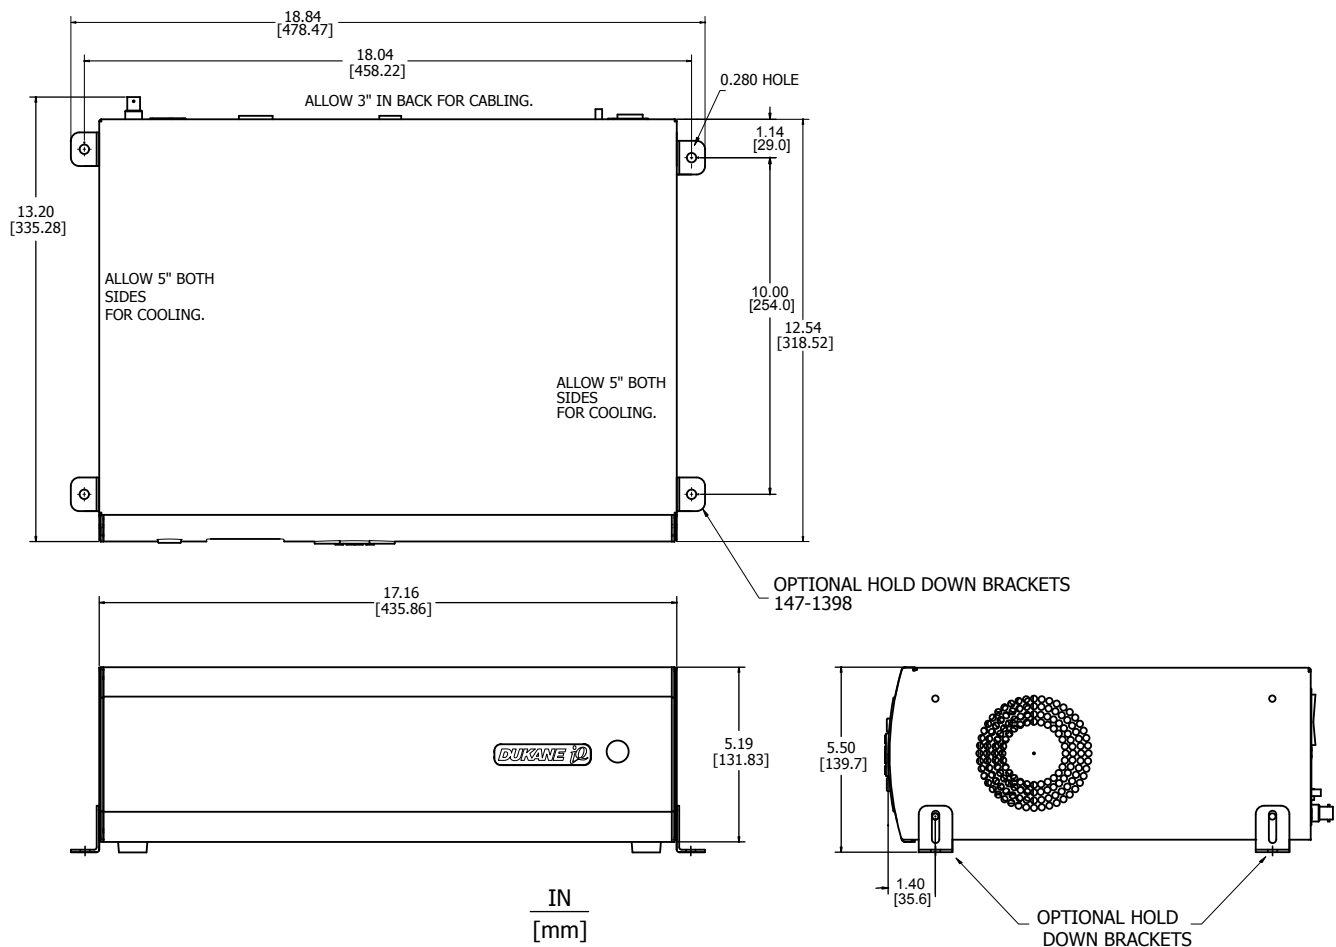

Figure 3-5 Securing *iQ* Generator to Benchtop
- 1) Install the four (4) optional hold down brackets. See Figure 3-5 below.